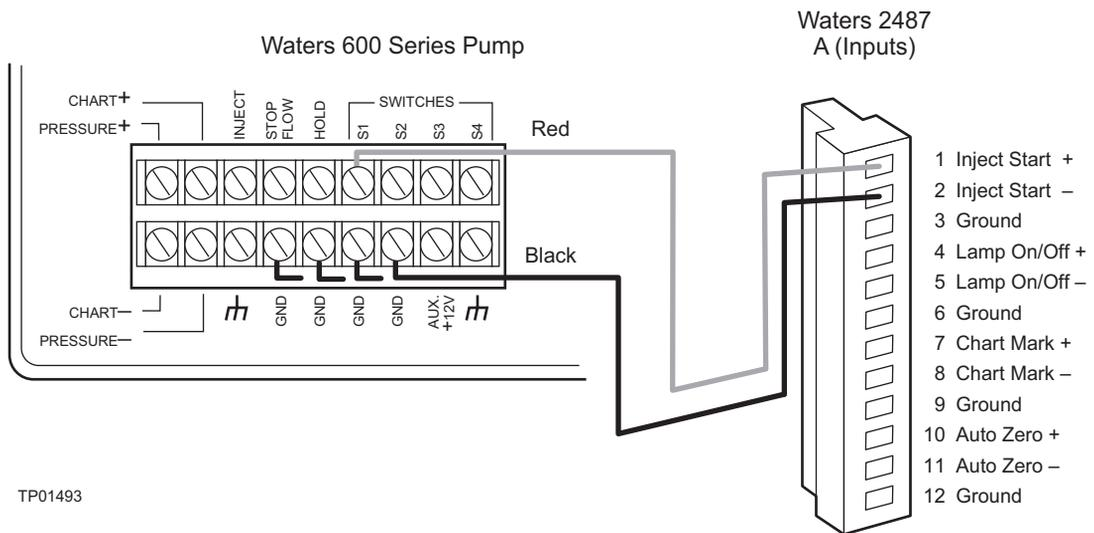

Figure 2-23 Waters 600 Series Pump Inject Start Connections
1. Using a signal cable, make the connections between the 2487 Detector and the Waters 600 Series Pump that are summarized in Table 2-13 and illustrated in Figure 2-23.